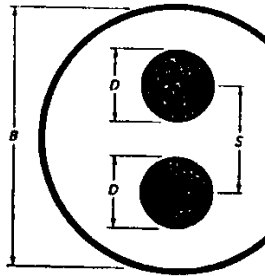

Figure E-9 Cross section of shielded twisted-pair
(9) Shielded twisted-pair (Figure E-9) has shape factor